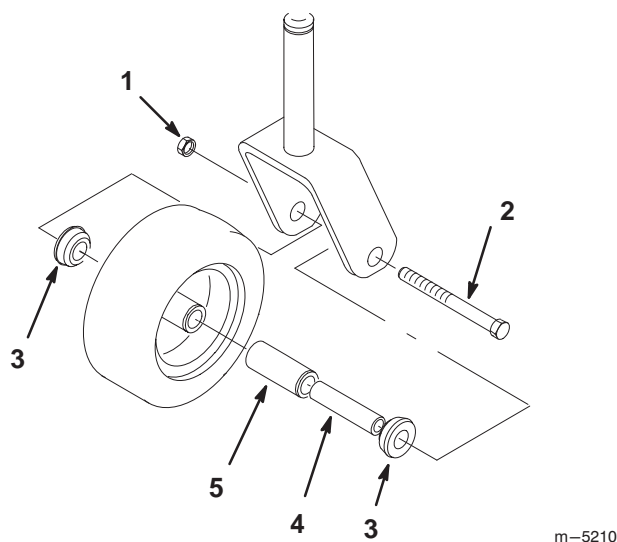

Figure 61
1. Remove the locknut and wheel bolt holding the caster wheel to the caster fork (Fig. 61).
2. Remove one bushing, then pull the spanner bushing and roller bearing out of the wheel hub (Fig. 61).
3. Remove the other bushing from the wheel hub and clean any grease and dirt from the wheel hub (Fig. 61).
4. Inspect the roller bearing, bushings, spanner bushing and inside of the wheel hub for wear. Replace any defective or worn parts (Fig. 61).
5. To assemble, place one (1) bushing into the wheel hub. Grease the roller bearing and spanner bushing and slide them into the wheel hub. Place the second bushing into the wheel hub (Fig. 61).
6. Install the caster wheel into the caster fork and secure with the wheel bolt and locknut. Tighten the locknut until the spanner bushing bottoms against the inside of the caster forks (Fig. 61).